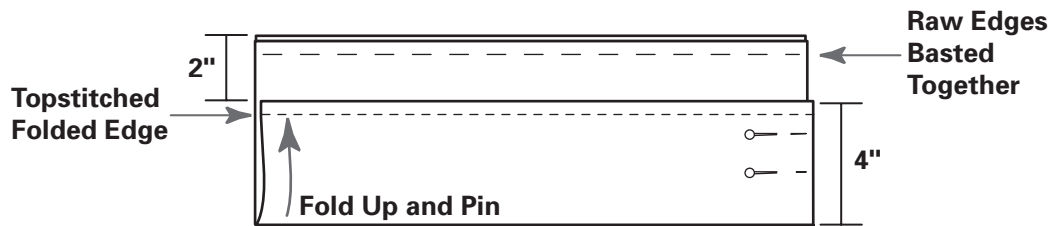

Fig. 18-4
8. Fold the fabric rectangle for the pocket in half lengthwise with right sides facing. Stitch the short edges together. Turn the pocket right side out and press. Baste or serge the raw upper edges together. Topstitch along the folded edge. Turn the folded pocket edge up to 2 inches (5 cm) from the raw pocket edge, forming a 4-inch (10-cm) deep pocket. Pin the sides of the pocket in place as indicated. (Fig. 18-4)